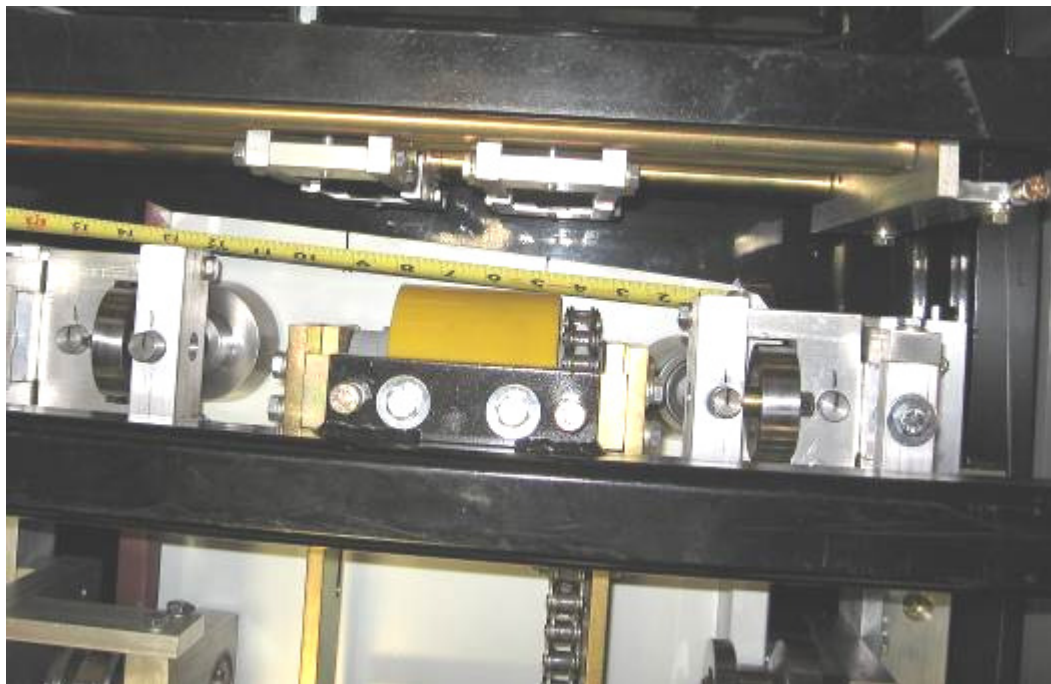

Figure 55: Spacing Bead Rollers
18. If you require beads in the panel, determine the spacing needed. For Example: a 12" wide panel with 2 beads centered on the panel would give you 3 equal spaces or 12" divided by 3, which equals 4" from center to center of each bead. Hook the end of your tape measure on the outside bottom corner of the female leg. Use a magic marker or grease pencil to mark the 4" and 8" locations on the panel. You now have 3 equal spaces. (Figure 55)